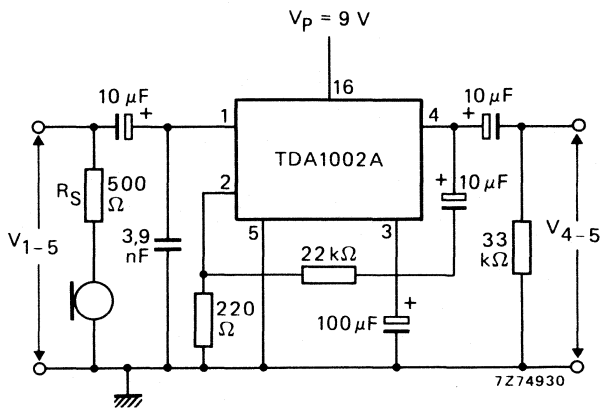
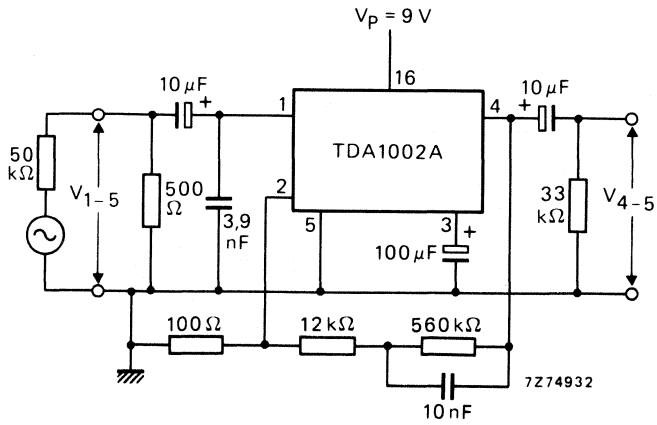

Fig. 3 Preamplifier used as microphone amplifier.
Fig. 5 Preamplifier used for playback.
1. For recording see Fig. 3; for playback see Fig. 5.